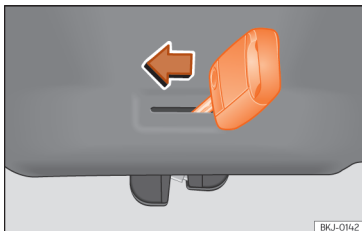

Fig. 59 Luggage compartment: manual release.
- Insert the key blade into the slot and move the key in the direction of the arrow until the lock unlocks >>> Fig. 59.